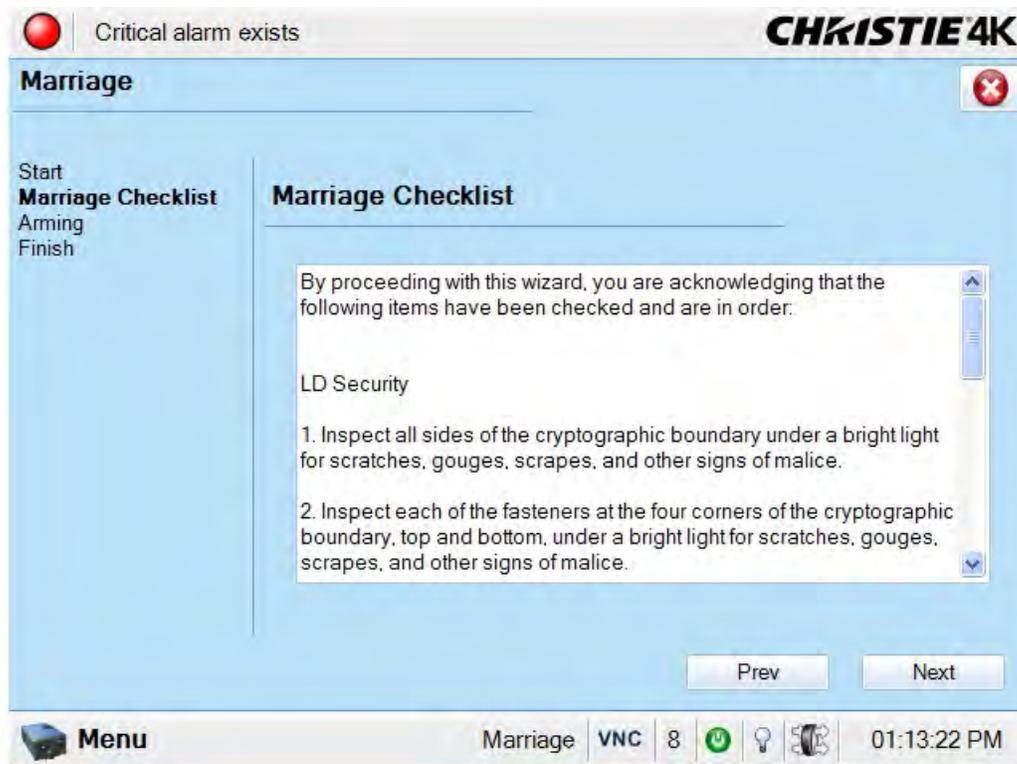
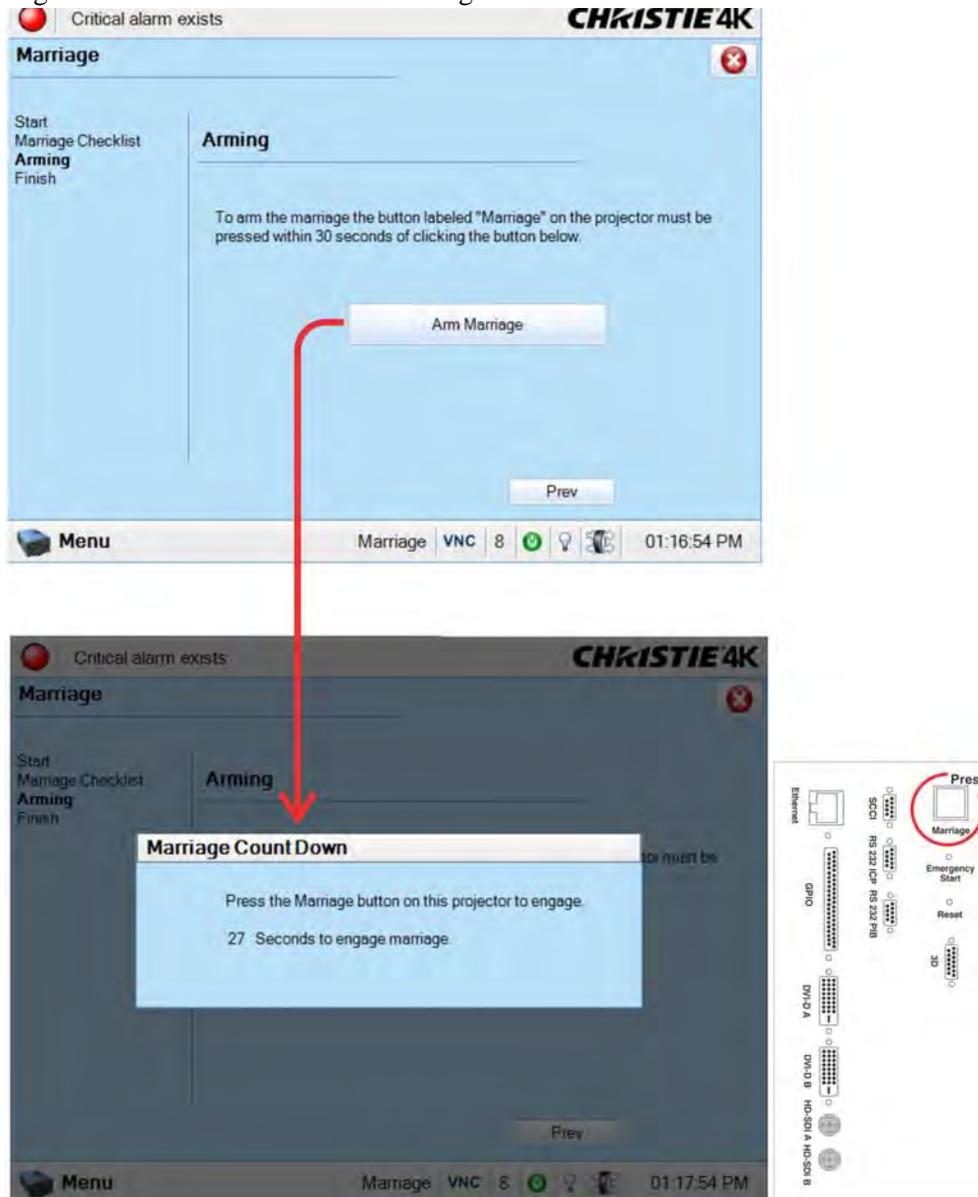

Figure 3-14 Administrator Setup: Marriage Checklist Window
Figure 3-15 Press Marriage Button on PI Board after Touching Arm Marriage Button
Marriage is the engaging of the DCI physical interlocks that enable the display of secured materials. The **Marriage** window begins a series of panels that guides you through the sequence of steps required to engage the projector's married condition. The left column of the **Marriage** window shows which state you're currently at in the marriage process. (**Figure 3-14**) Touch the **Next/Prev** buttons to navigate the series of steps. **NOTE:** Only Christie authorized service technicians can engage the projector's marriage. One of the key ideas behind marriage is that an authority figure examine the projector and ensures that it has not been tampered with before a marriage can be performed. This means that a person must be physically at the projector when the marriage is performed - it cannot be done remotely. To ensure this, there is a marriage button on the PI Board panel which must be pressed in order for the marriage to complete. The following are the steps that must be followed for you to perform marriage on the projector.
2. In the **Marriage Checklist** window (**Figure 3-14**), the wizard checks that all tamper switches are secure and it presents a list of items that you must check to ensure the projector is secure before proceeding. Touch the **Next** button to proceed to the **Arming** window.
3. In the **Arming** window, touch the **Arm Marriage** button. (Figure 3-14). A 30 second count-down timer begins. (Figure 3-15). The LED in the **Marriage** button on the PI Board will flash green during this count-down. You **MUST** press the **Marriage** button on the PI Board within this 30 second window in order for the marriage to take effect. When the **Marriage** button is pressed, the LED button will change to a solid green to indicate a successful marriage.